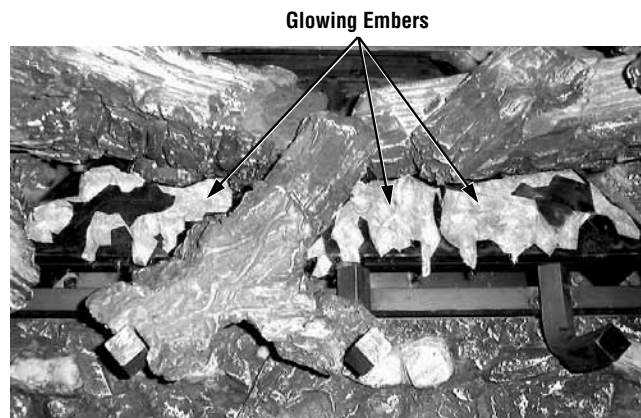
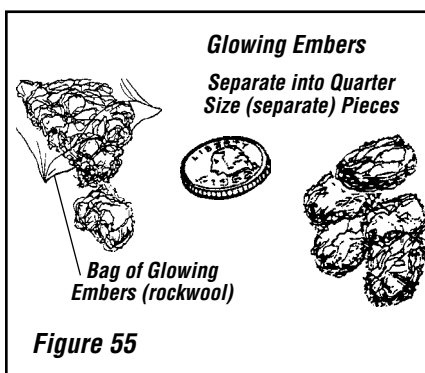

Figure 54
Figure 55
Step 3. Separate the Glowing Ember (rockwool) into pieces about the size of a quarter (**Figure 55**). Keep the pieces fluffed up, not matted. Distribute these pieces over the front surface of the burner, as shown in **Figure 54**. Do not use more than is necessary. When properly positioned, the Glowing Embers will cover approximately 65% of the front burner and with no appreciable gaps or openings. Ensure that the main burner ports remain uncovered by the ember material.